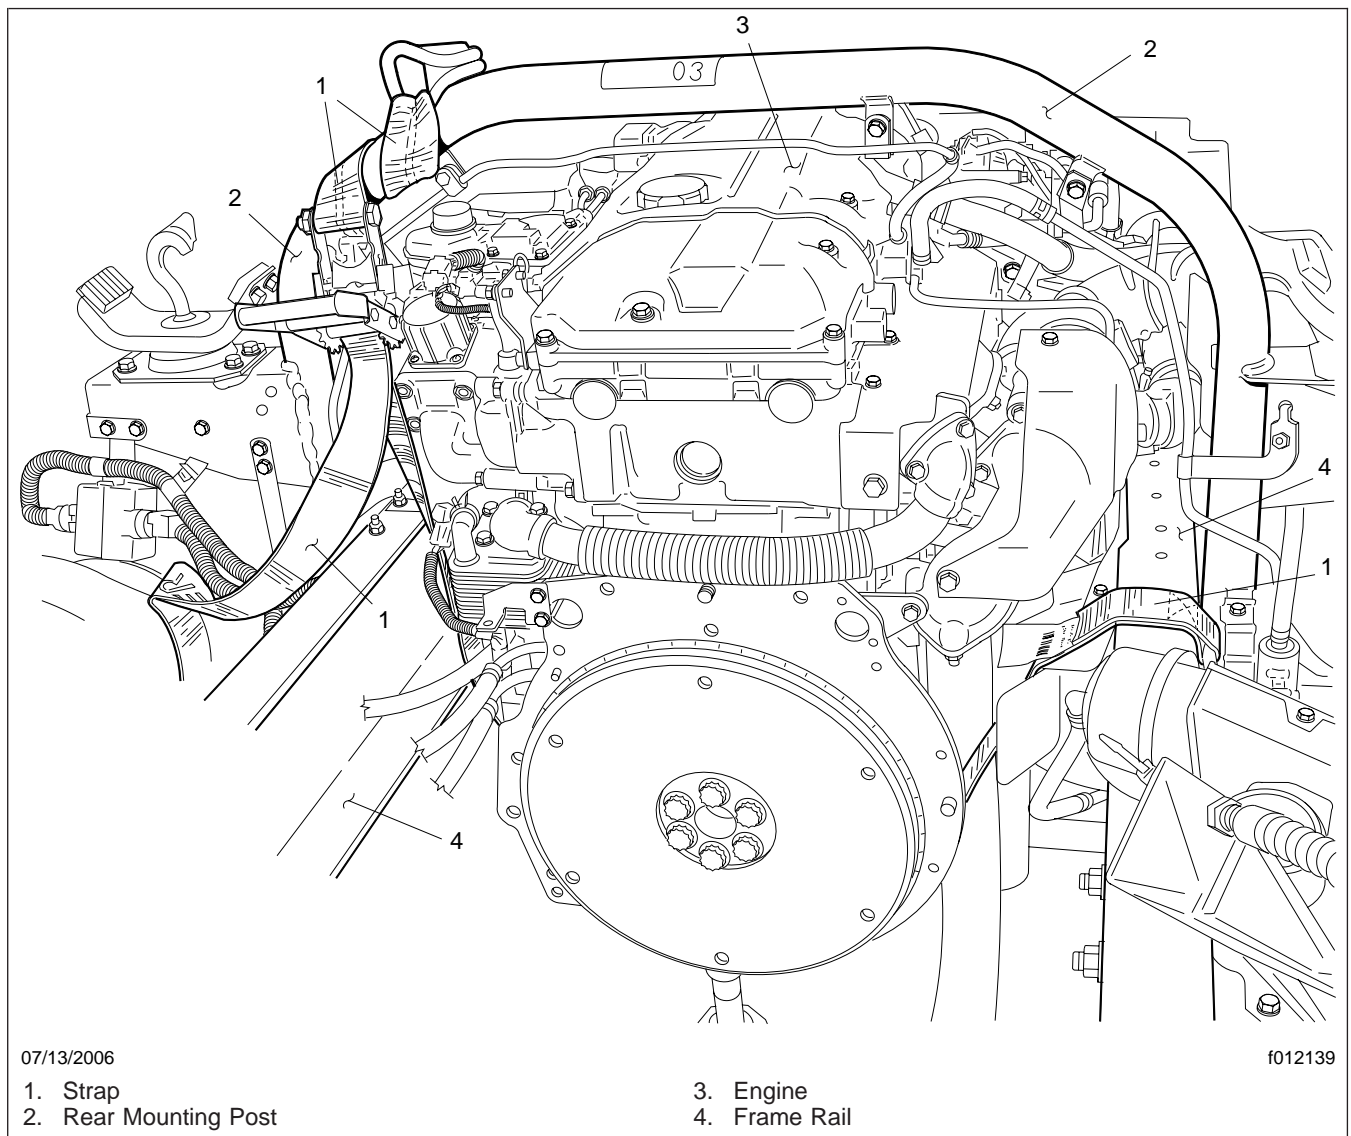

Fig. 9, Supporting the Engine
- 20.5 Using straps, secure the engine to the cab rear mounting post. See Fig. 9. Then, raise the rear of the vehicle and remove the transmission from the vehicle.